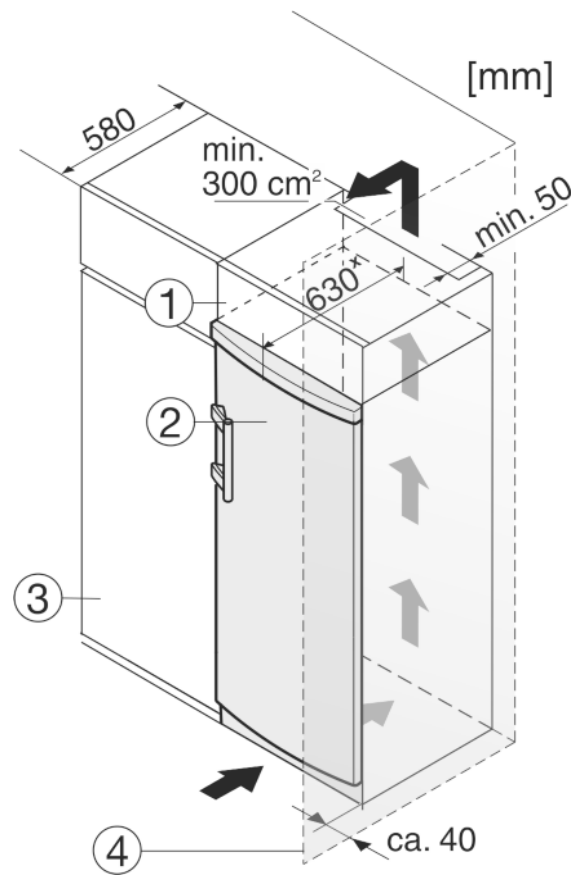

Fig. 9
The appliance can be built into kitchen units. A top cupboard *Fig. 9 (2)* can be added above the appliance in order to bring the appliance *Fig. 9 (1)* up to the height of the fitted kitchen units.
When installing with kitchen units (max. depth 580 mm), the appliance can be positioned directly next to the kitchen cabinet *Fig. 9 (3)*. The appliance will project by 34 mmx at the sides and 50 mmx in the centre of the appliance in relation to the kitchen cabinet front.
If the appliance is installed with the hinges next to a wall *Fig. 9 (4)*, the distance between appliance and wall has to be at least 40 mm. This corresponds to the projection of the handle when the door is open.